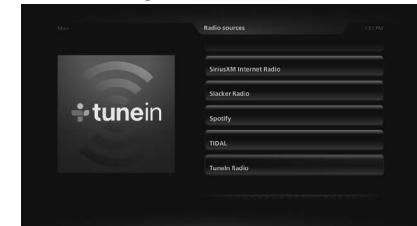

Figure 21
3. Using the + (Up) or - (Down) Push-button on the Remote Control, select TuneIn Radio from the menu. Refer to figure 21.